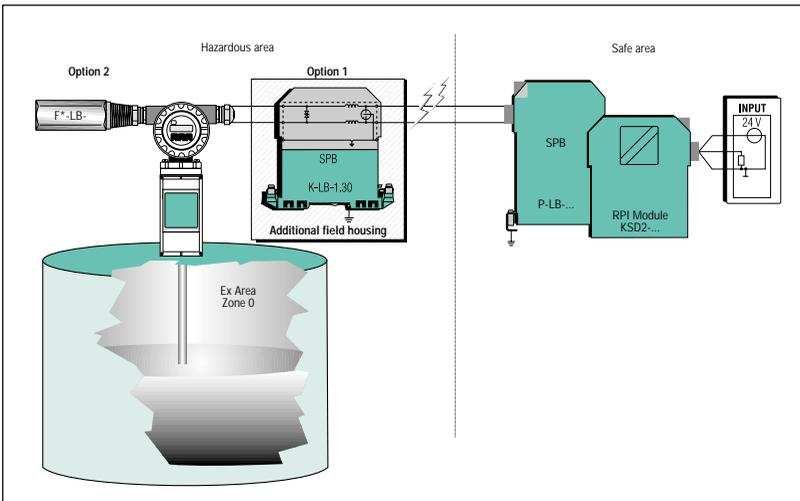

Figure 18b: Ex application with TIB or RPI, Snap-on SPBs
- For most TIBs and the modules of the RPI product family, Pepperl+Fuchs offers the new space saving P-LB-\* family of surge protection barriers. Contrary to the K-LB types which are mounted on a separate DIN rail, the P-LB SPB is simply snapped-on to the TIB or RPI modules and fixed with a screw on an earth rail (see Figure 18b: Ex application with TIB or RPI, Snap-on SPBs).